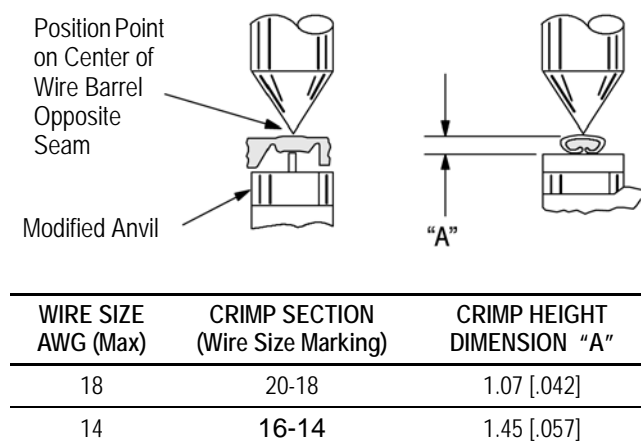

Figure 4
This tool is provided with a crimp adjustment feature. Initially, the crimp height should be verified as specified in Figure 4. Refer to Section 6, Crimp Height Inspection, and Section 7, RATCHET
1. Refer to Figure 4 and select a wire (maximum size) for each crimp section listed.
3. Using a crimp height comparator, measure the wire barrel crimp height as shown in Figure 4. If the crimp height conforms to that shown in the table, the tool is considered dimensionally correct. If not, the tool must be adjusted. Refer to Section 7, RATCHET (Crimp Height) ADJUSTMENT.